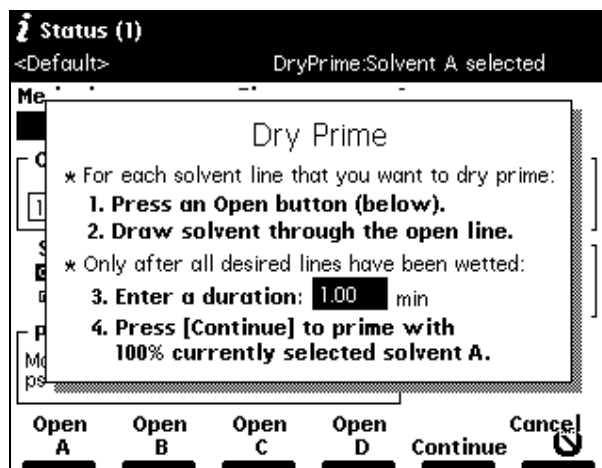

Figure 4-8 Dry Prime Dialog Box
7. Select **Dry Prime**, then press **Enter**. The Dry Prime dialog box appears (Figure 4-8).